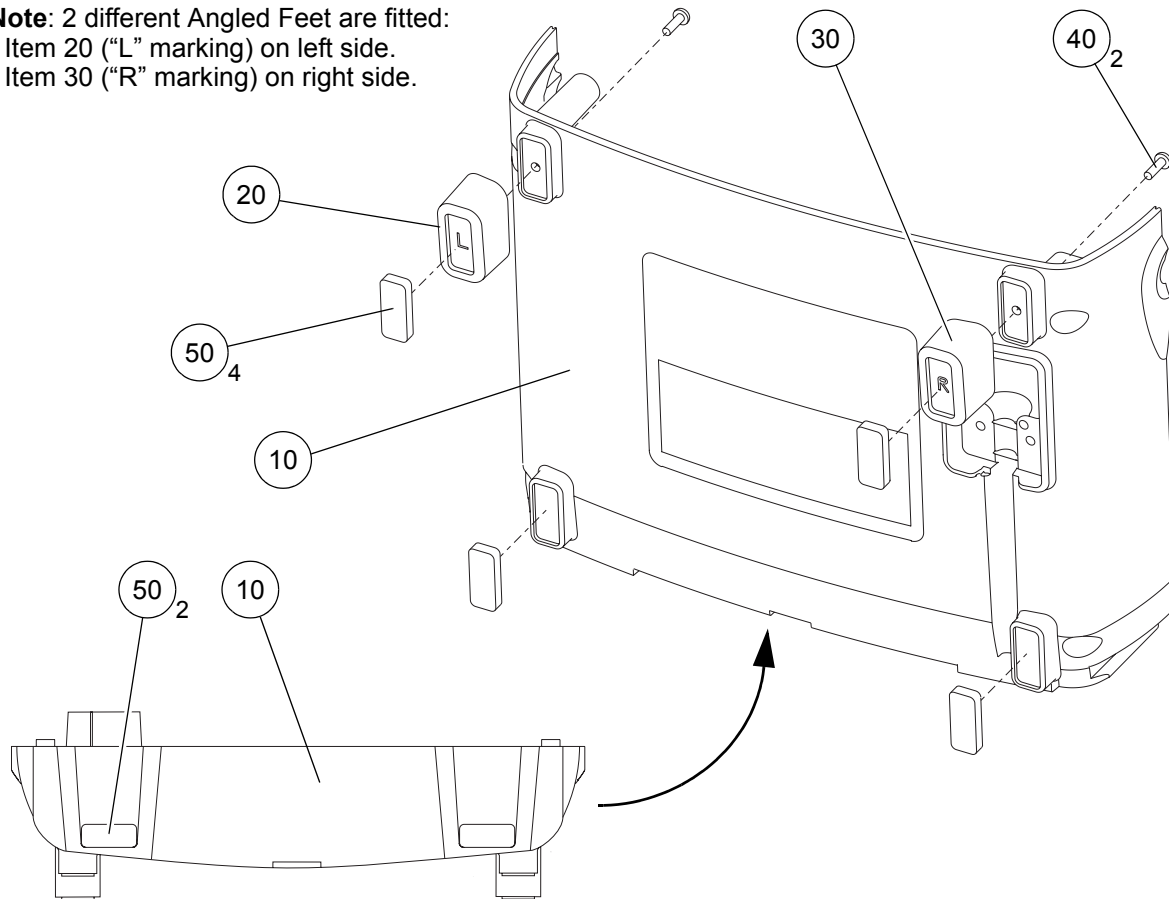

Figure 32 - Replacing the Rear Case - External View
27.2 Install the two angled feet onto the new rear case assembly (Fig 32, Item 10), as follows:
Note: The two angled feet are **NOT** interchangeable (refer to Figure 32). They are angled in two directions, so both their position and orientation **must** be correct.
27.2.1.2 Remove the pozi screw (Fig 32, Item 40) which secures the left-side angled foot (Fig 32, Item 20) to the old rear case (Fig 32, Item 10).
Note: It is not necessary to remove the rubber foot (Fig 32, Item 50).
27.2.1.4 Install a pozi screw (Fig 32, Item 40) to secure the left-side angled foot.
27.2.1.5 Repeat Paras 27.2.1.2 to 27.2.1.4 for the right-side angled foot (Fig 32, Item 30).
27.2.2.1 Position the new left-side angled foot (Fig 32, Item 20) onto the left side of the new rear case (Fig 32, Item 10).
27.2.2.2 Position the right-side angled foot (Fig 32, Item 30) onto the right side of the new rear case.
Note: Make sure the orientation of the **L** and **R** markings on the angled feet are correct (refer to Figure 32).
27.2.2.3 Install two pozi screws (Fig 32, Item 40) to secure the angled feet.
27.3 Stick six rubber feet (Fig 32, Item 50) onto the side and bottom of the rear case assembly.